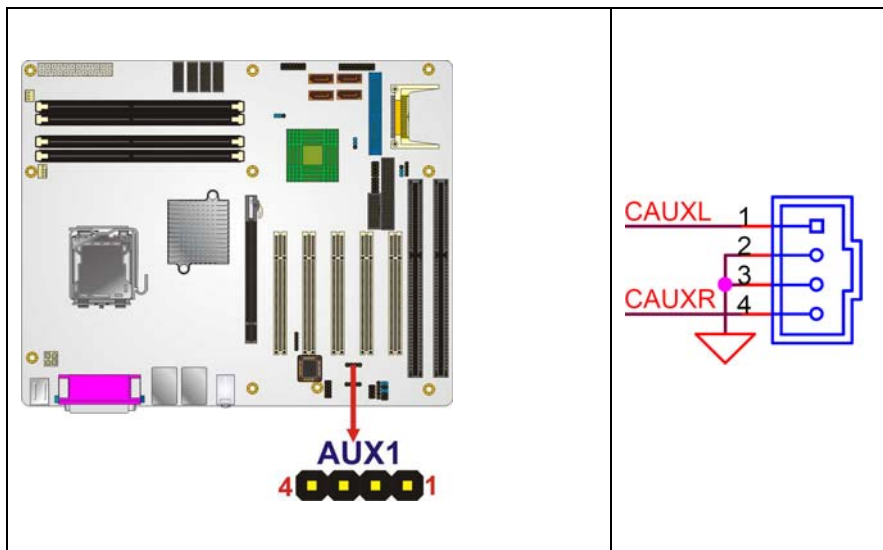

Figure 4-4: Auxiliary Audio Connector Location (4-pin)
- CN Location:** See Figure 4-4